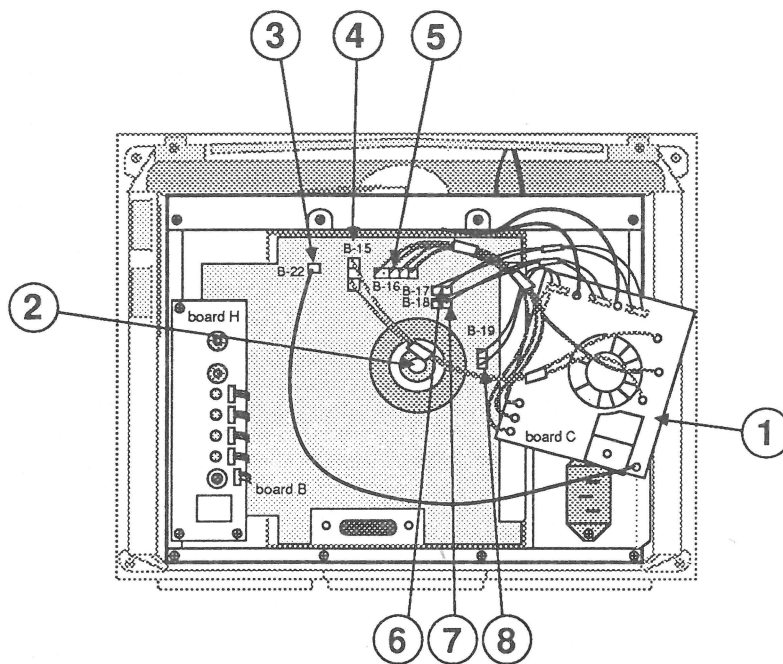

FIGURE 8
7. Pull video board "C" (Figure 8, #1) off the neck of the CRT (Figure 8, #2) and turn it out slightly.
8. The wires of video board "C" connect to color video board "B." Detach from board "B" the connectors listed in Table 1 and shown in Figure 8.
2. Replace video board "C" (Figure 8, #1) on the neck of the CRT (Figure 8, #2). It fits only one way.